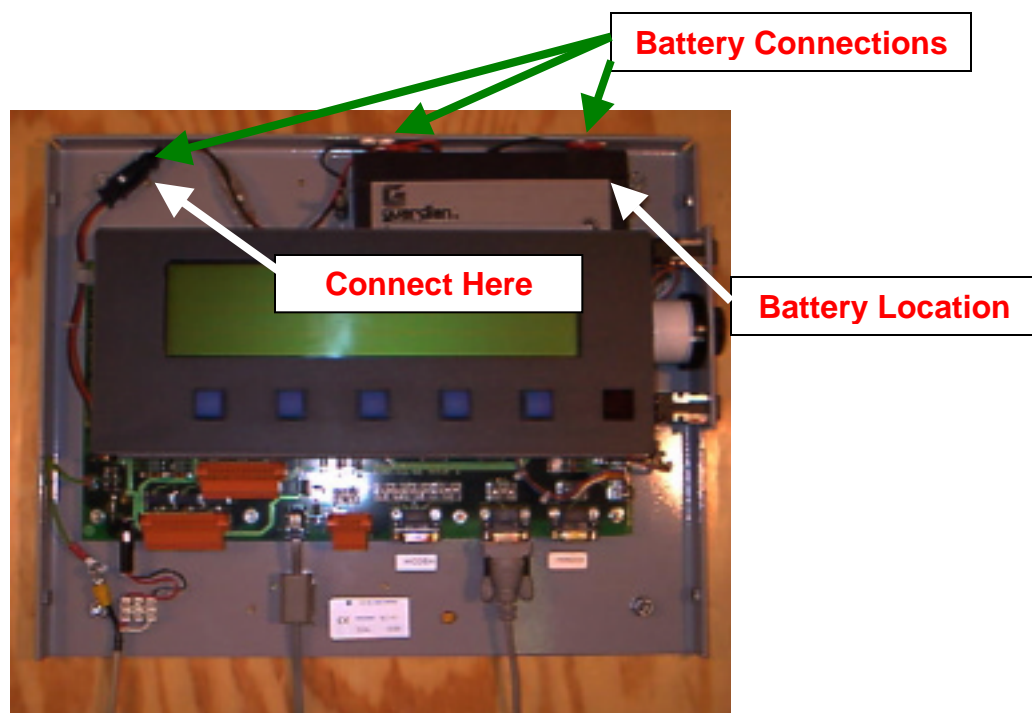

Figure 15
15. Place the Backup Float Charge Battery in the battery slot provided within the ScanLog's upper panel (See Figure 15). Connect the Float Charge Battery's plug, as shown in Figure 15, insuring all connections are secure.